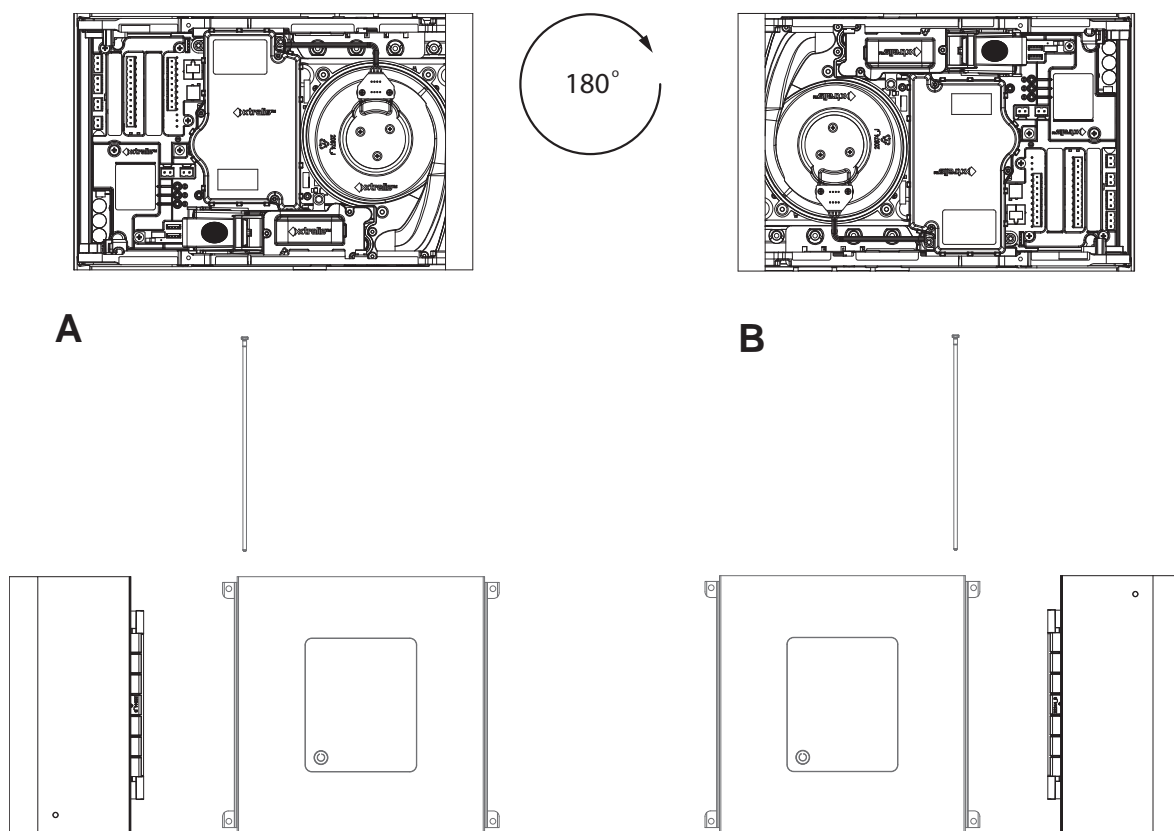

Figure 4-11: Rotate detector and door and move door to right side of fascia
6. Change from setup A in Figure 4-11 to setup B by doing the following: